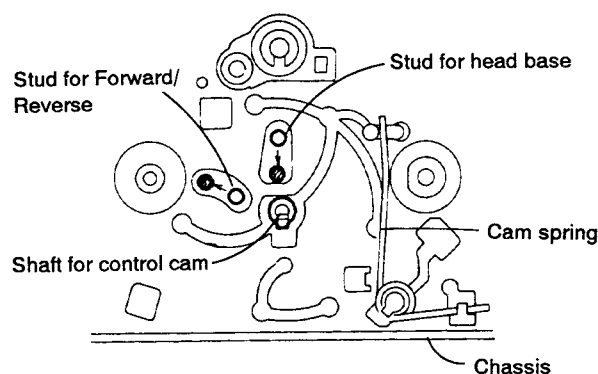

Fig. 5-49
2. Under the conditions in Step 1, the head base beneath the control cam and the position of the forward/reverse arm stud should be moved in the arrow direction (See Fig. 5-49).